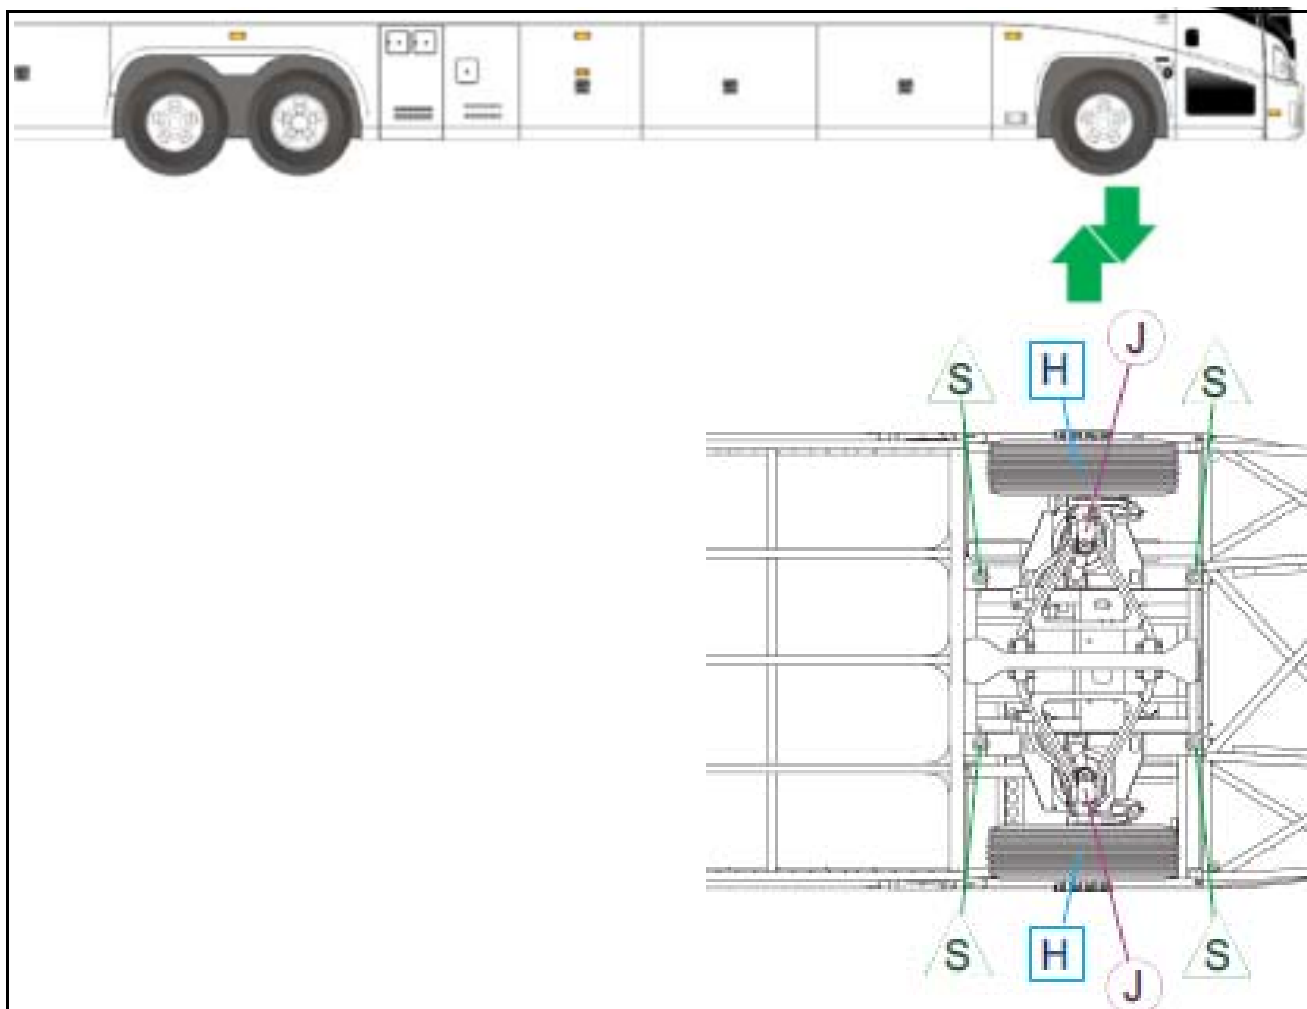

Figure 1.
4. Position a jack under the front jack pad, using the locations shown in Figure 1, and partially raise the coach with the tire still contacting the ground.
Item	Figure 1 Description
6. Operate the jack to raise the front wheel off the ground. Position a jackstand (safety stand) under the front axle bogie support point shown in Figure 1.